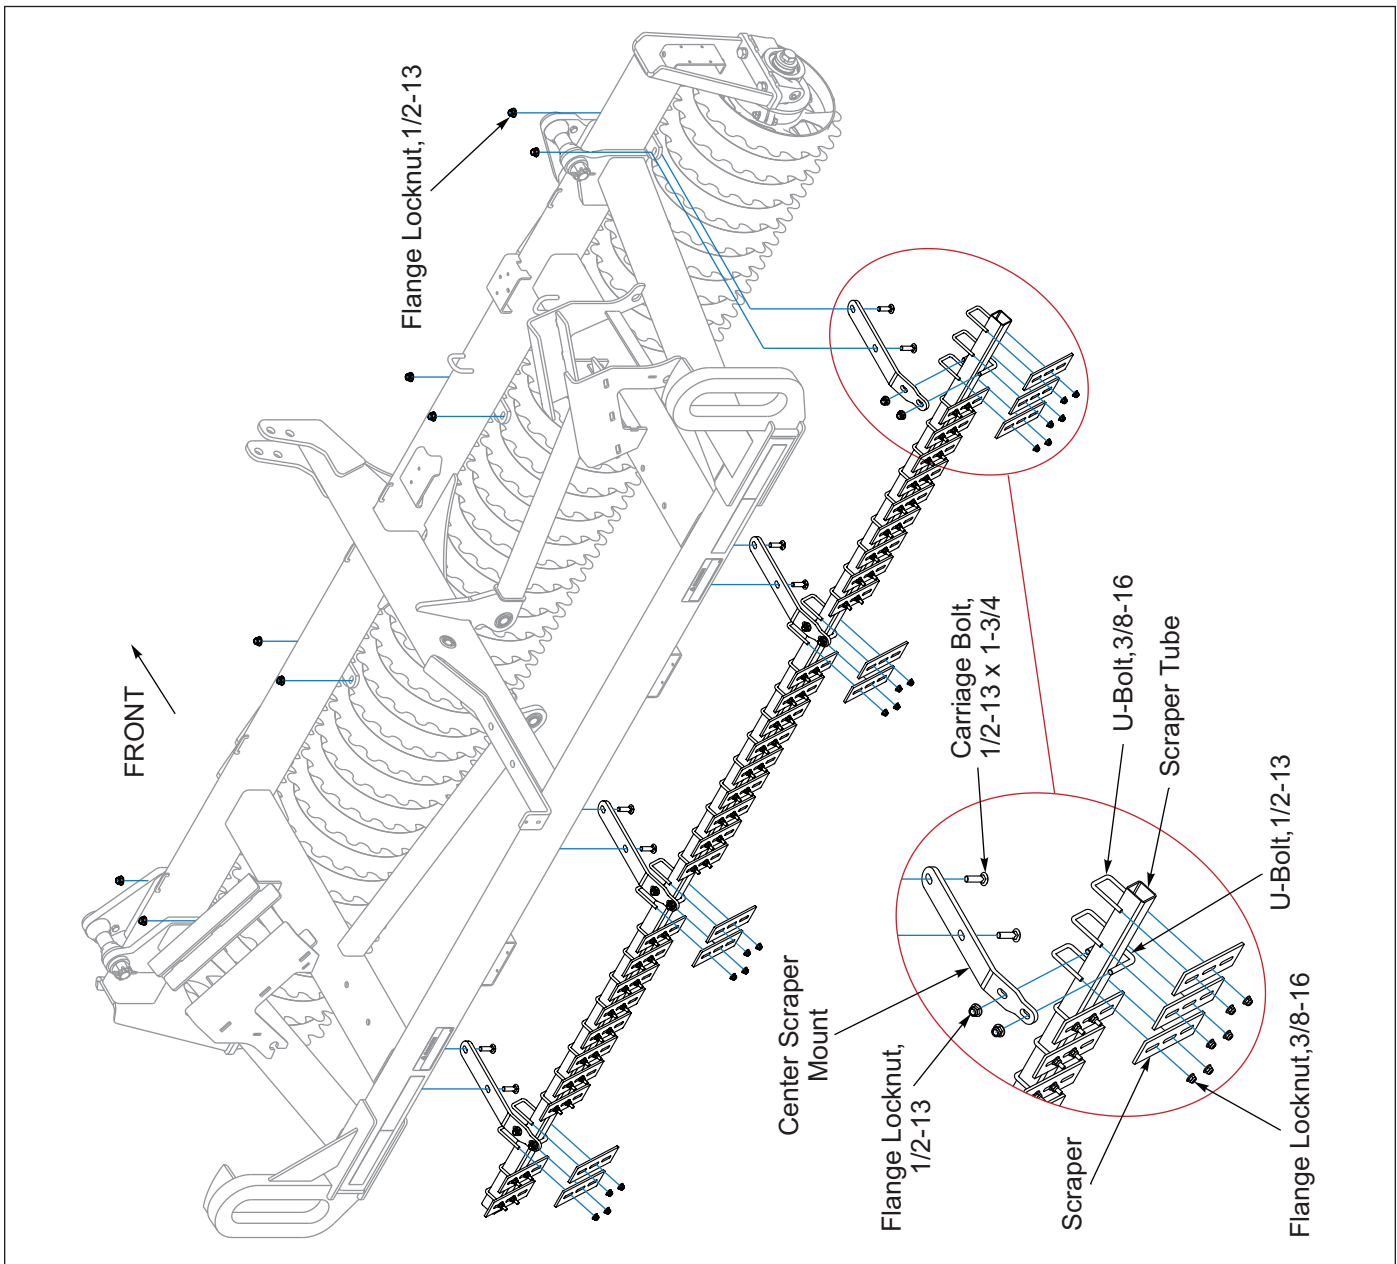

Figure 2-23: Center Roller Scrapers - Optional
1. Place the Center Roller on level ground. Install Center Scraper Mounts to Frame Mounts with 1/2-13 x 1-3/4 Carriage Bolts and Flanged Locknuts. **See Figure 2-23.** Pull the Center Scraper Mounts as far towards the rear as possible. Tighten.